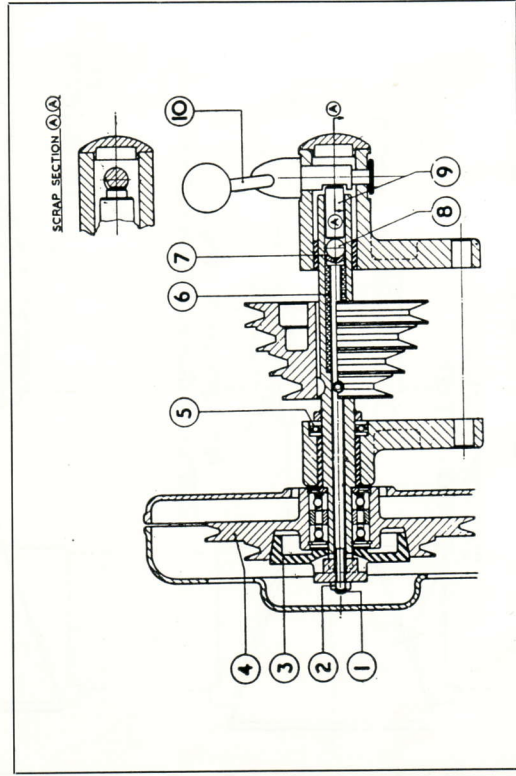

Fig. 38. Showing countershaft clutch layout.
Reference to Fig. 38 will show that the countershaft clutch consists of a coned metal driving member, the clutchplate (3) which is tenoned into the end of the countershaft, and normally held in engagement with the tapered cone of the pulley (4) by a compression spring (6) which is inserted into the hollow countershaft (7) between the shoulder in the bore of the shaft and the head of the push rod (1).